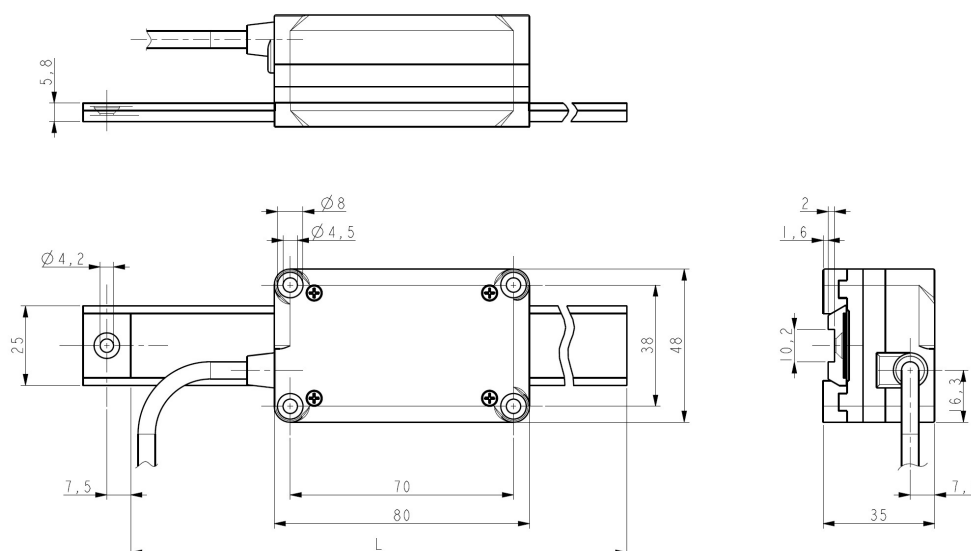

Figure 1
3.1 Overall dimensions (Figure 1)
Use **four TCEI M4 UNI 5931 type cylinder head screws** inserted from the top in the holes provided at the four angles of the housing. The screws must be 37 mm minimum long (see Figure 1). **The maximum tightening torque is 1.2 Nm.** We suggest adding a few drops of threadlocker of medium bond strength. The fixing support must be positioned at the base of the sensor case. Ensure that the cable does not obstruct or impede the sensor's movement.
3.5 Measuring length (Figure 1)
As the sensor area has always to be fully within the limits of the tape's magnetic surface, the **maximum measuring length ML** is the maximum length of the tape minus the length of the sensor (see the Figure 1) = $L - 80 \text{ mm} / 3.149"$ ($115 \text{ mm} / 4.528" \div 570 \text{ mm} / 22.441"$).